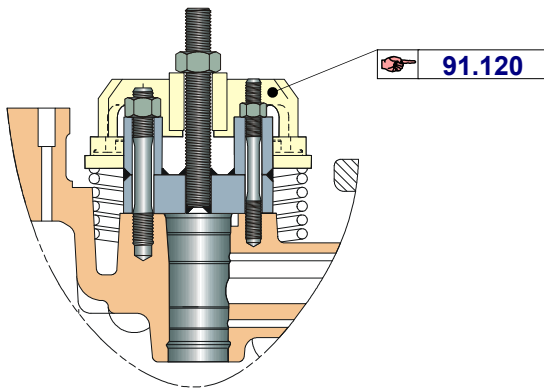

Fig. 1 Mounting of tool
1. Mount tool for dismantle as shown in fig 1.